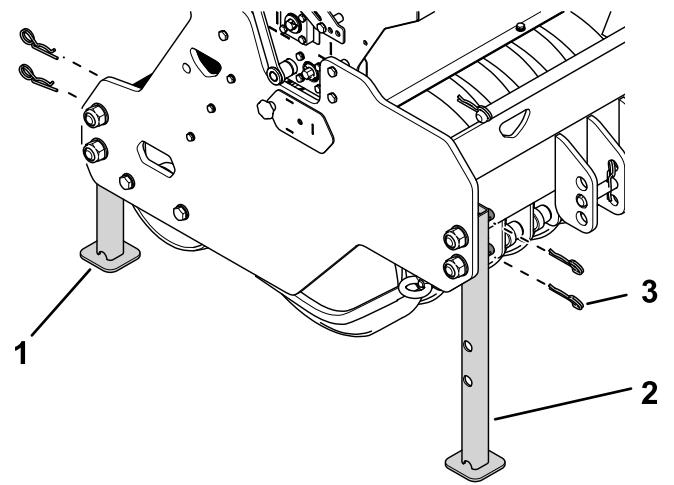

Figure 14
2. Remove the cotter pins from the stands and use them to secure the stands in the lowered position as shown in Figure 14